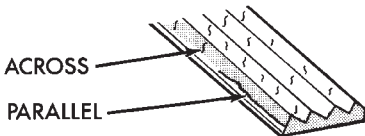

Fig. 2 Accessory Drive Belts 2.5L Engine
(1) Loosen the idler bracket pivot screw A and locking screws B (Fig. 2) to remove and install belt or adjust belt tension.